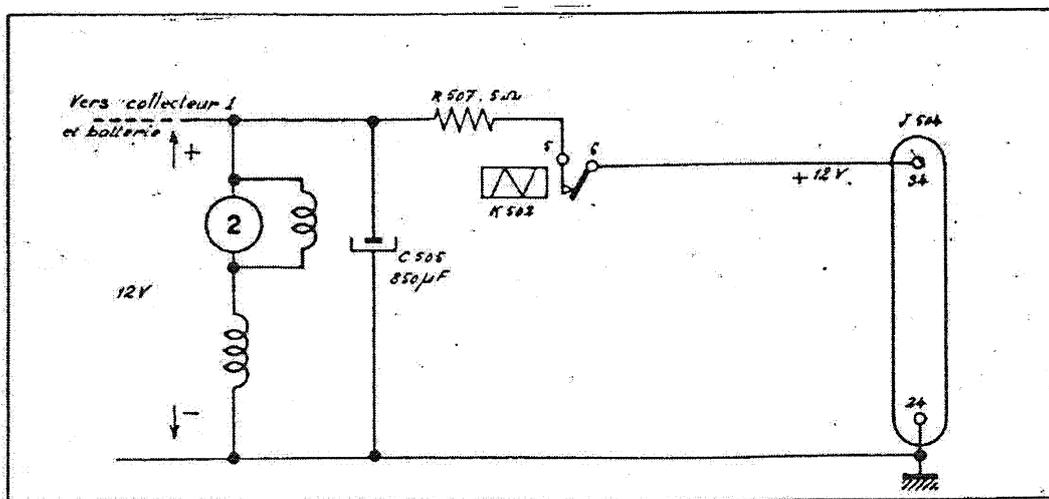

Fig. 18 - Circuit 12 V. relais de manipulation.
- Fig. 18 Circuit 12 V relais de manipulation